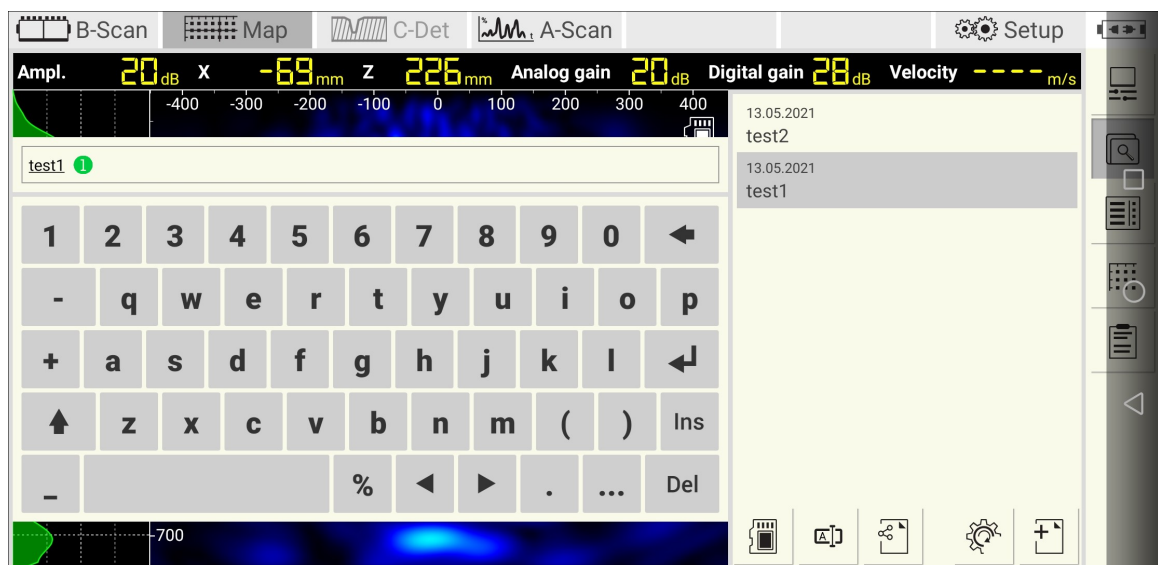

Figure 6: Saving dialog keyboard
Press the button  to save the current data and parameters. After pressing the button the keyboard ① appears, Figure 6. Edit the name using the keyboard. Confirm the changes with .
- Keep attention that the crack is located between the fourth and fifth row of transducers, **Figure 6**